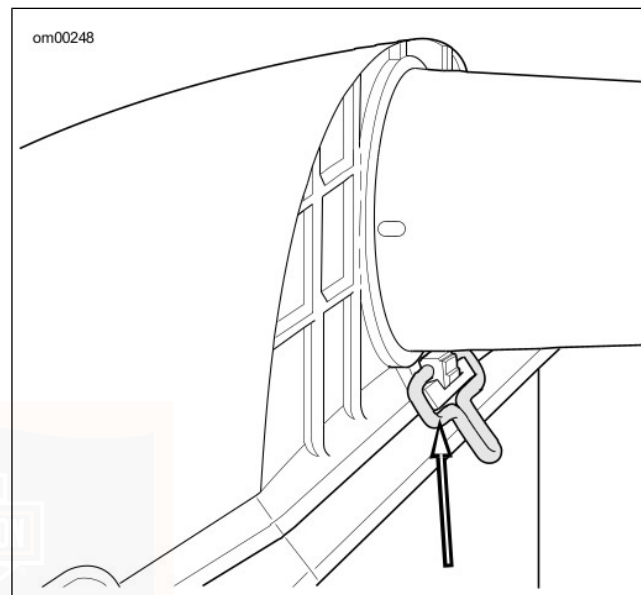

Figure 45. Front Air Box Clip
12. See Figure 45. The front clip under the snorkel is attached to the air box top. Fasten the clip over the lip on the air box bottom.